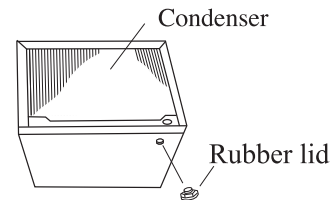

Fig.2
4. Lift the back of the machine body slightly. You can see the drain hole at the back of the bottom plate. Plug the black rubber lid of the enclosed accessories into the hole. (see Fig. 2).